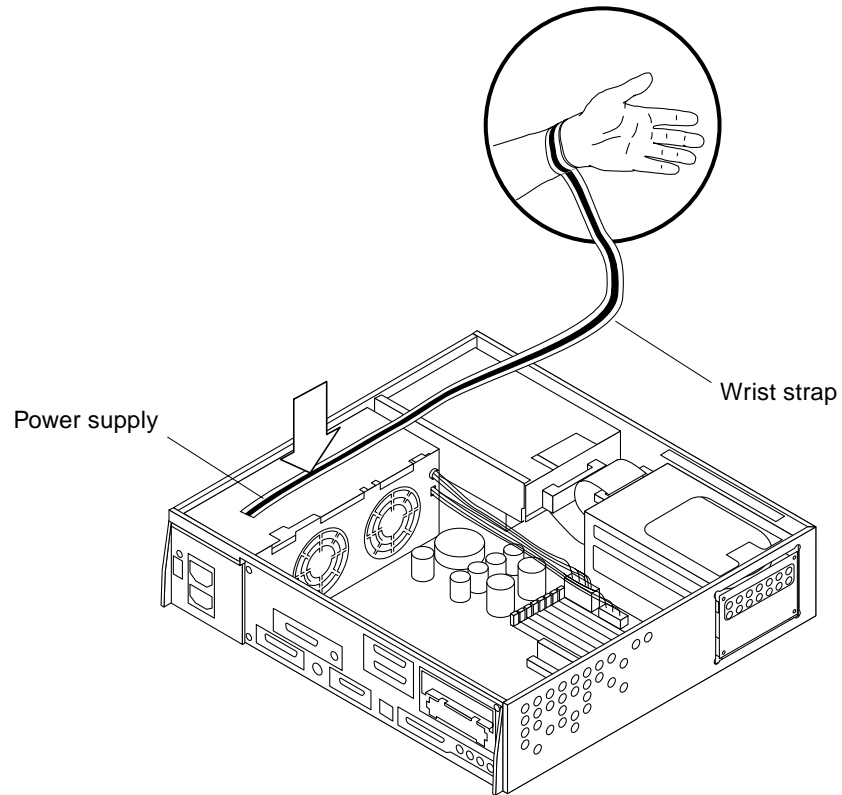

Figure 2-4 Attaching the Wrist Strap
1. Unwrap the first two folds of the wrist strap and wrap the adhesive side firmly against your wrist (Figure 2-4).